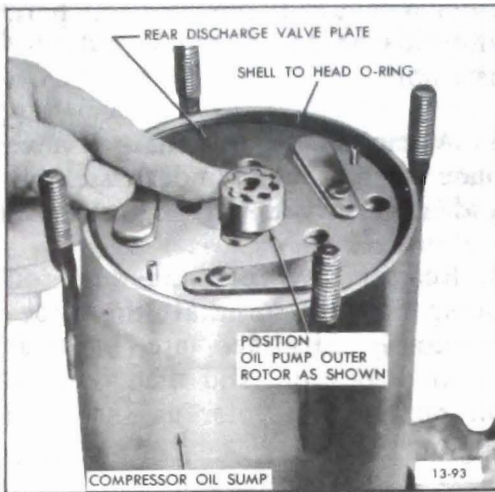

Figure 13-119 Positioning Oil Pump Outer Rotor
4. Reassemble inner and outer oil pump rotors so that the sides previously identified are in their original location, and then position oil pump outer rotor as shown in Figure 13-119.
5. Generously coat with No. 525 viscosity oil new shell to head "O" ring and install in shell (see Figure 13-119).